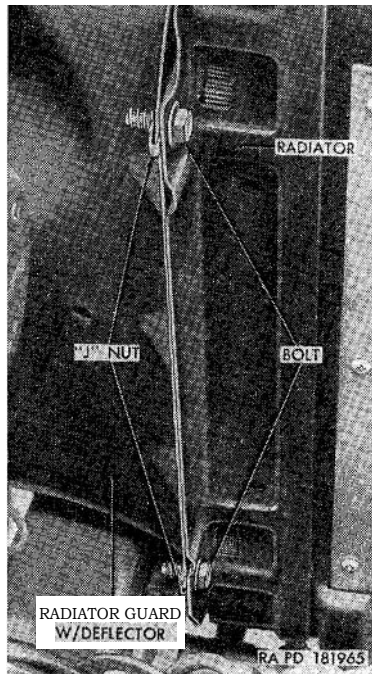

Figure 1S3. Radiator-to-guard panel "J" nuts—installed.
- (1) *Body.* The body (figs. 1 and 2) is an all steel, four-passenger open-type of seamed and welded construction. Mounting shims and cushions insulate the body from the frame. The body is equipped with a driver's seat, passenger seat and rear seat, tool compartment, battery stowage box, bows for installation of the top cover with rear curtain, spare wheel support bracket, and spare fuel can bracket. The passenger's seat is hinged to permit access to the tool compartment. The folding-type rear seat provides seating accommodations when in the lowered position, and extra carrying space on the floor when in the raised position. Weather protection is provided by the top cover which may be removed and stored in clement weather. A two-piece, folding-type windshield, with two windshield wiper vacuum motors attached to the windshield frame, is secured to the body cowl. An outside rear view mirror is mounted on the body cowl to the left of the driver. The removable hood and front fenders are .formed sheet metal. Two front floor pan covers provide access to the rear of the engine compartment, transmission, transfer, master cylinder, and steering gear. Reflex reflectors are bolted to the rear and sides of the body.
- (2) *Frame.* The frame is constructed of two heavy channel steel side rails and five cross members. All cross members, except the engine rear support cross member, are welded to the side rails. The support cross member is bolted to the rails. Two rear reinforcements are welded to the side rails and the rear cross member. A towing pintle, mounted on the rear cross member, provides for towing a trailer. Two front lifting